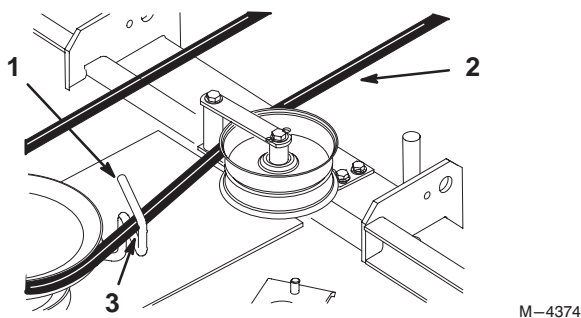

Figure 59
11. Rotate the belt guide, on rear of the mower, so it is 1/8"-1/4" (3-7 mm) away from the vertical side of the PTO belt (Fig. 59).